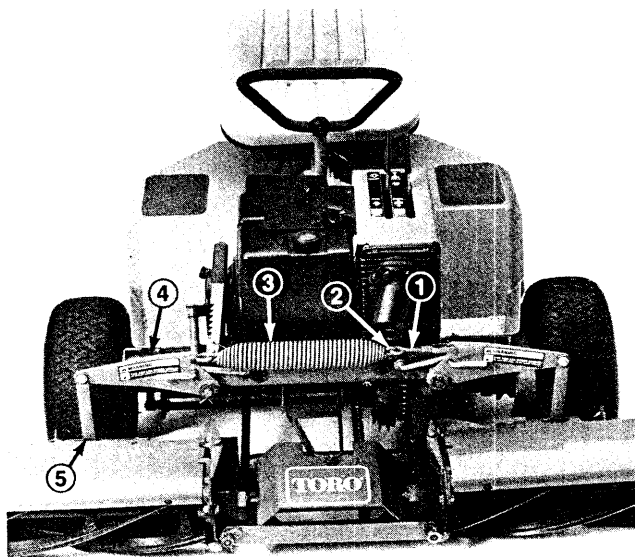

Figure 32
FRONT COUNTERBALANCE SPRING is under extreme tension when arms are extended **GRASP SUPPORT ARMS** when releasing links from cutting units (Fig. 32).
1. Decrease spring tension; loosen jam nut securing hook eye (Fig. 32).
2. Turn hook eye clockwise (Fig. 32).
1. Increase spring tension; loosen jam nut securing hook eye (Fig. 32).
2. Turn hook eye counterclockwise (Fig. 32).
- A. Remove cotter pins securing links to cutting units (Fig. 32).
- B. Grasp each support arm firmly and remove links from cutting units (Fig. 32).
- C. Measure length of spring in relaxed position, note length and install and secure links back onto cutting units (Fig. 32).